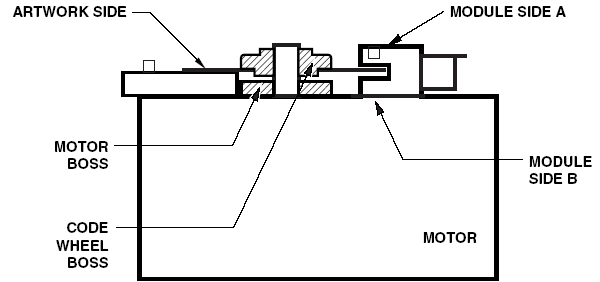

Figure 3. Alignment Tool is Used to Set Height of Codewheel.
Figure 2 shows a mounting tolerance *requirement* for proper operation of the HEDS-9040 and HEDS-9140. The Aligning Recess Centers must be located within a tolerance circle of 0.005 in. radius from the nominal locations. This tolerance must be maintained whether the module is mounted with side A as the mounting plane using aligning pins (see Figure 5), or mounted with Side B as the mounting plane using an alignment tool (see Figures 3 and 4).
2. Set codewheel height by placing alignment tool on motor base (pins facing up) flush up against the codewheel as shown in Figure 3. Tighten codewheel setscrew and remove alignment tool.